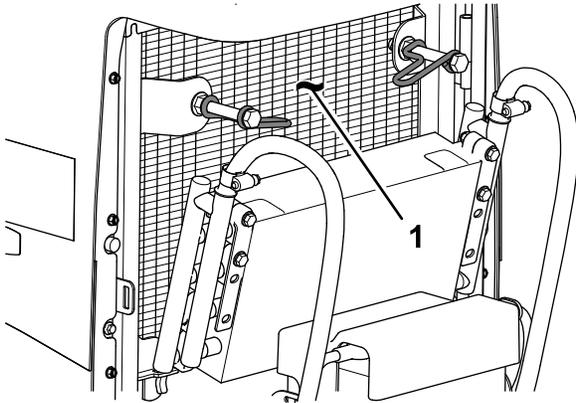

Figure 112
8. Thoroughly clean both sides of the oil cooler and the radiator (Figure 112) with compressed air.